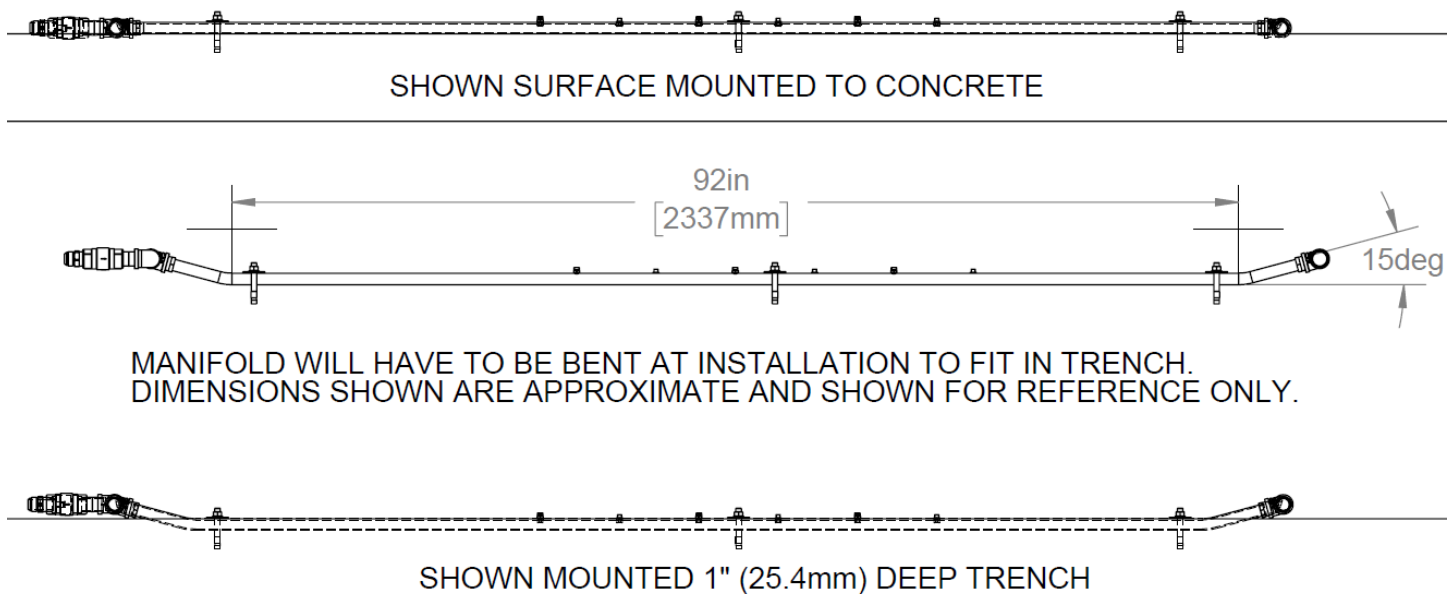

Figure 107 – Drive through Underbody Manifold Floor Mounting Options
- The manifold may be mounted directly to the wash bay floor or in a trench to recess it beneath the floor level. If a trench is used, this should be made approximately 102 in (2.59m) long, 1.5 in (38mm) wide, and 1 in (25mm) deep. See Figure 107 for mounting options.